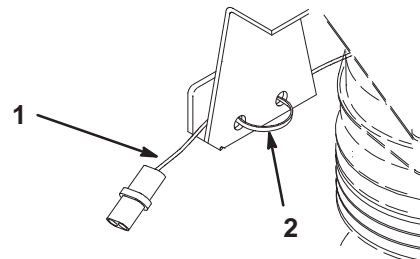

Figure 8
19. Secure the clutch wire harness to clutch bracket with a cable tie as shown in figure 8.